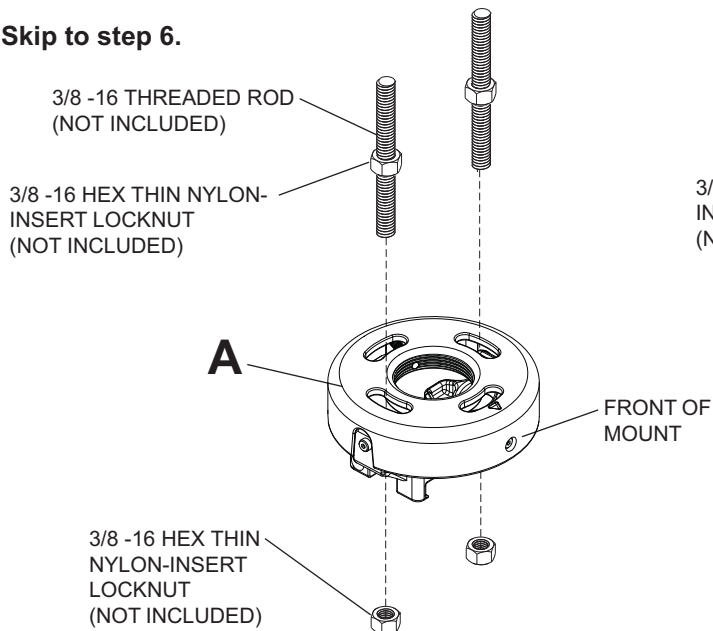
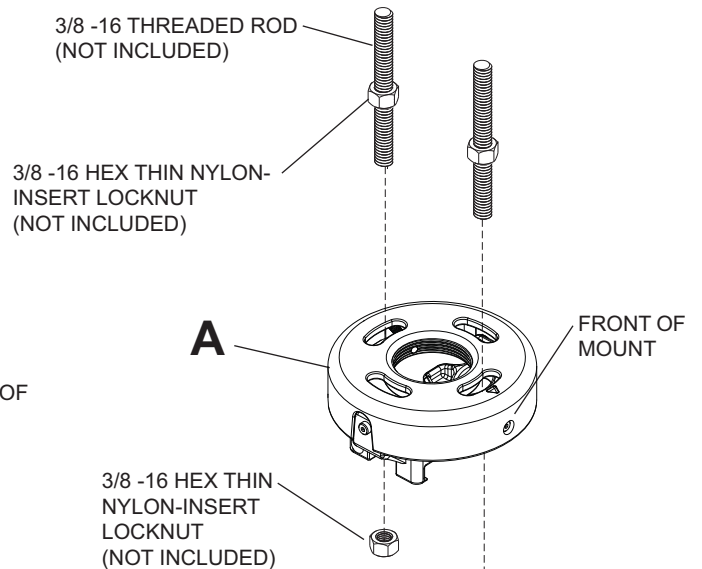

fig. 4.1
fig. 4.2
- 4** Thread two 3/8-16 hex thin nylon-insert locknuts (not included) on two 3/8-16 threaded rods (not included) to the desired height of projector mount assembly. Attach projector mount assembly (A) to two 3/8-16 threaded rods using two 3/8-16 hex thin nylon-insert locknuts as shown in **figure 4.1** or **figure 4.2**.